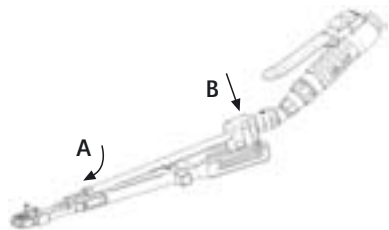

Fig. 5 Sliding the reamer handpiece into the reamer guide
- **A:** Position reamer handpiece **6** with the coupled reamer through the frontal guide hole of reamer guide **3**, see Fig. 5.
- **B:** Position the laterally protruding pins of mounting block **4** through the rear guiding slots of reamer guide **3**, see Fig. 5.